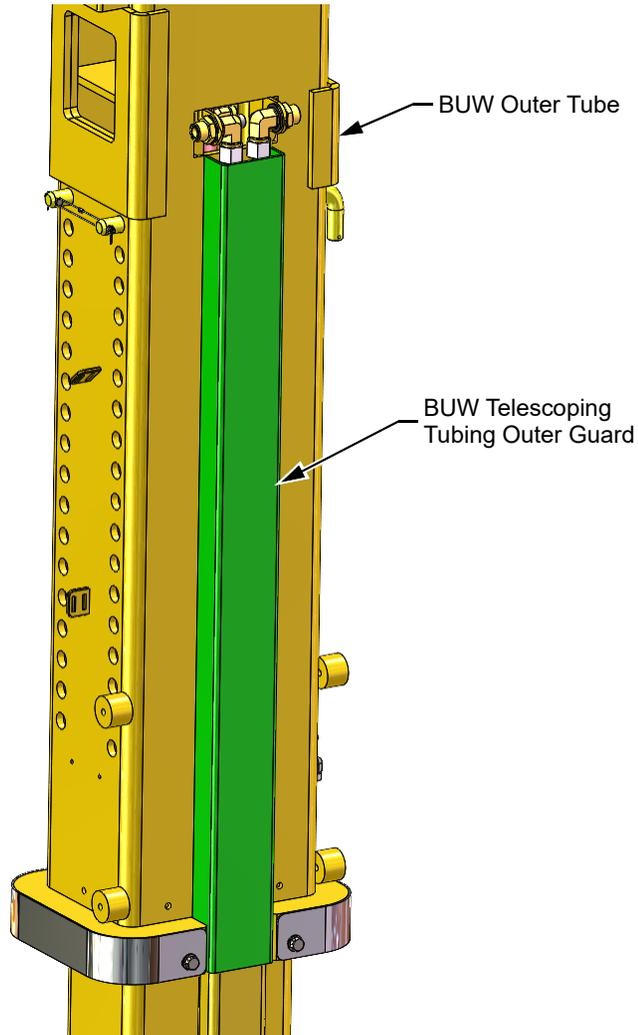

Figure 4: BUW Telescoping Tubing Outer Tube and Guard
5. Remove stitch welded joints adjoining the BUW telescoping tubing outer guard to the BUW outer tube and remove the telescoping tubing outer guard as shown in Figure 4.